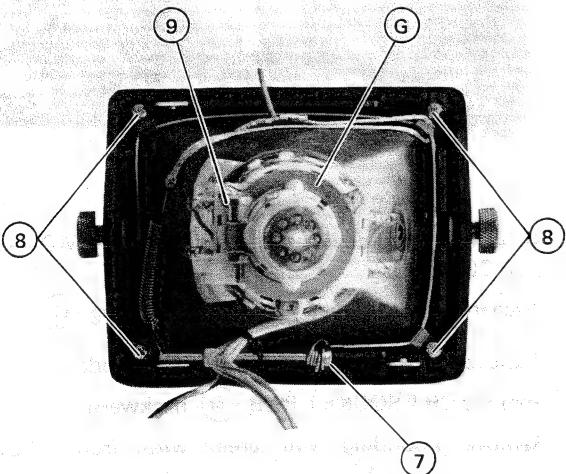

Fig. 3-8
7. Remove the connectors ⑩ and ⑪.
8. Remove CRT with the escutcheon panel as shown in Fig. 3-8.